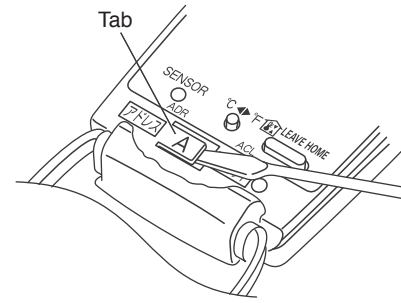
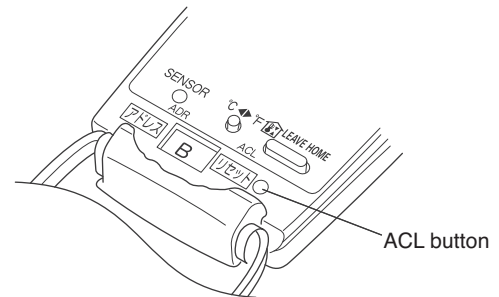
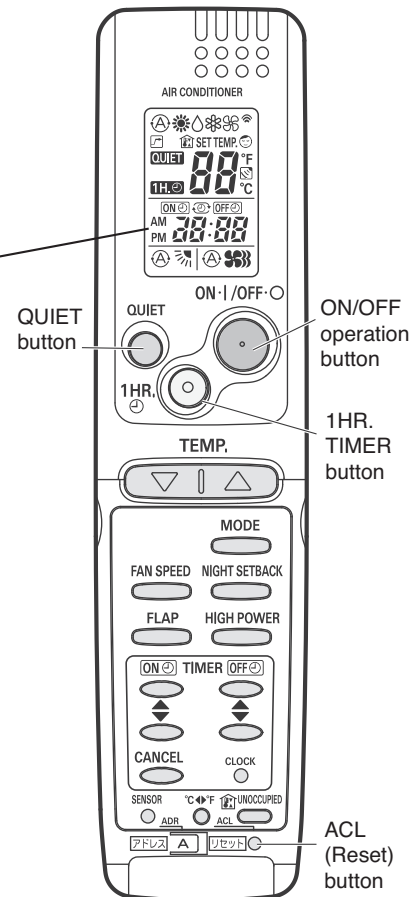

Fig. 62
Fig. 63
Fig. 64
- (1) Switch on the power source.
- (2) Break the address-setting tab marked “A” on the second remote controller to change the address (Fig. 62). When the tab is removed, the address is automatically set to B (Fig. 63).
- (3) Press and hold the remote controller QUIET button and 1HR. TIMER button. Then press and hold the ACL (Reset) button with a pointed object such as the tip of a pen. After 5 seconds, release the ACL button first, then release the QUIET and 1HR. TIMER buttons. “oP-1” (Test Run) appears, blinking in the remote controller clock display area.
- (4) Each time the 1HR. TIMER button is pressed, the display changes as shown below. Press this button 3 times to change the display to “oP-7” (Address setting). (Fig. 64)
- (5) “oP-7” has now been selected for address setting.
- (6) Press the ON/OFF operation button on the remote controller. (Fig. 64) Check that the “beep” signal-received sound is heard from the second indoor unit (approximately 5 times). The sound you hear is the signal that the remote controller address has been changed.
- (7) Finally press the remote controller ACL (Reset) button to cancel the blinking “oP-7” display. (Fig. 64)